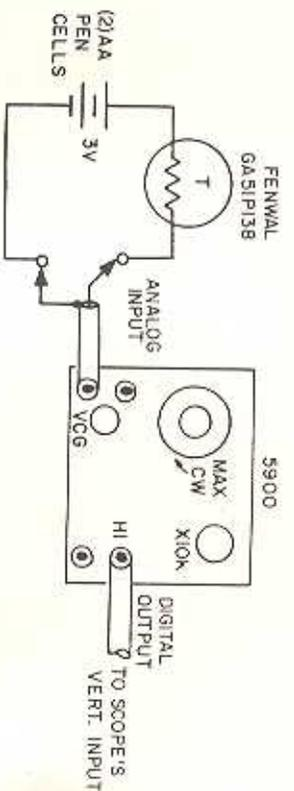

Fig. 23 To display temperature A/D conversion
1. Connect the equipment as shown in Fig. 23.